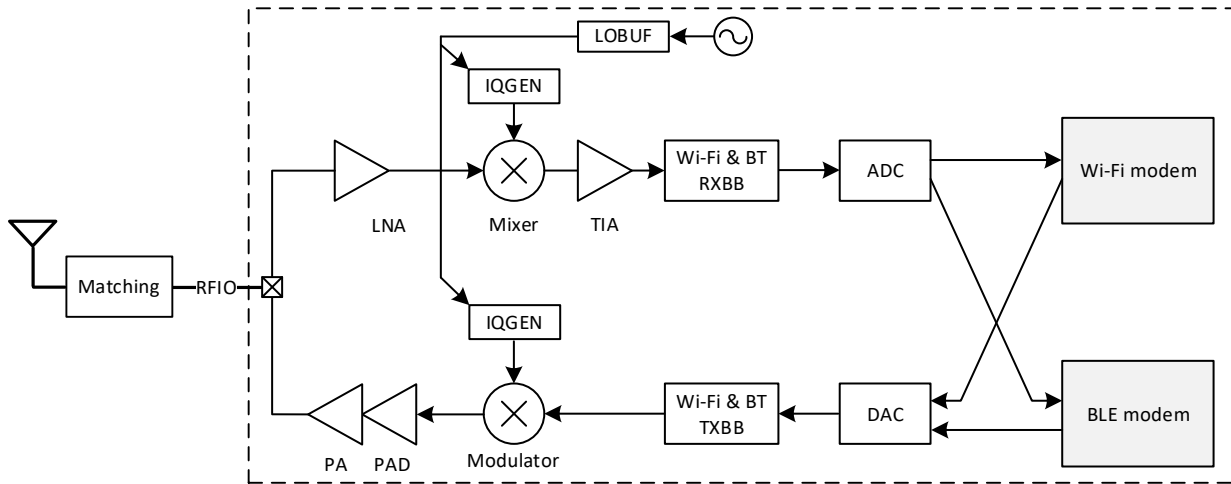

Figure 3-6 RF block diagram
The Radio Frequency (RF) block diagram of RTL8720EA, including WLAN and BLE modem, is given in *Figure 3-6*.